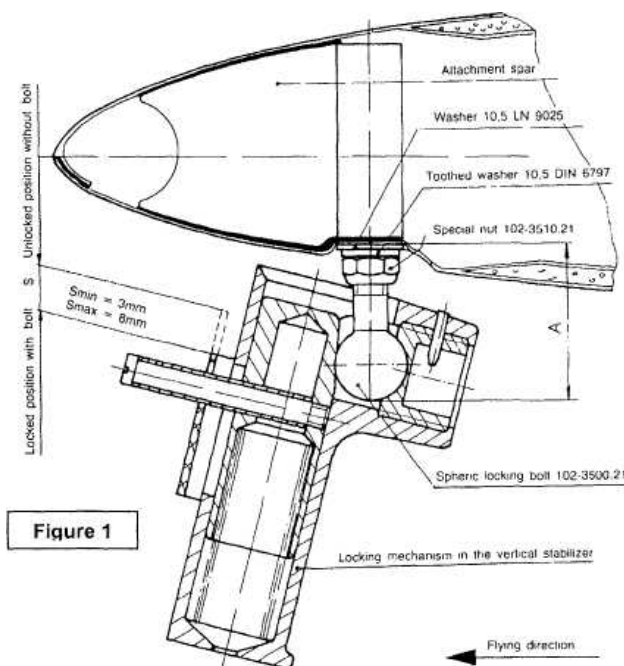

Figure 1
- If play is noticed in the front attachment the spherical bolt must be replaced (see figure 1). Determine the ball diameter. When ordering advise the measured diameter "D" + 0.1 mm. Also advise gap width "S" as measured.